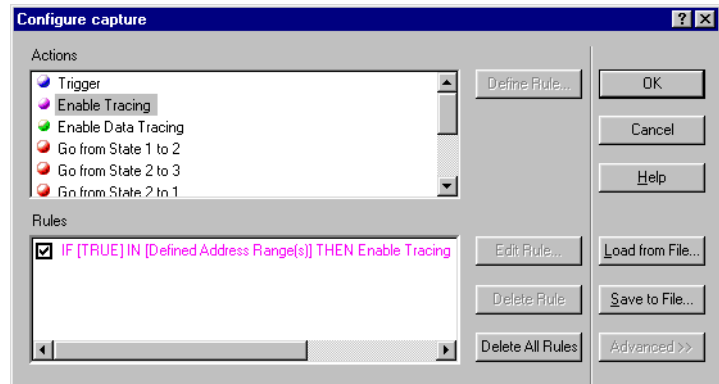

Figure 8-24 Configure capture dialog box
11. Click **Finish** to create this rule. The Configure capture dialog box now shows the new Enable Tracing rule in the Rules list, as shown in Figure 8-24.